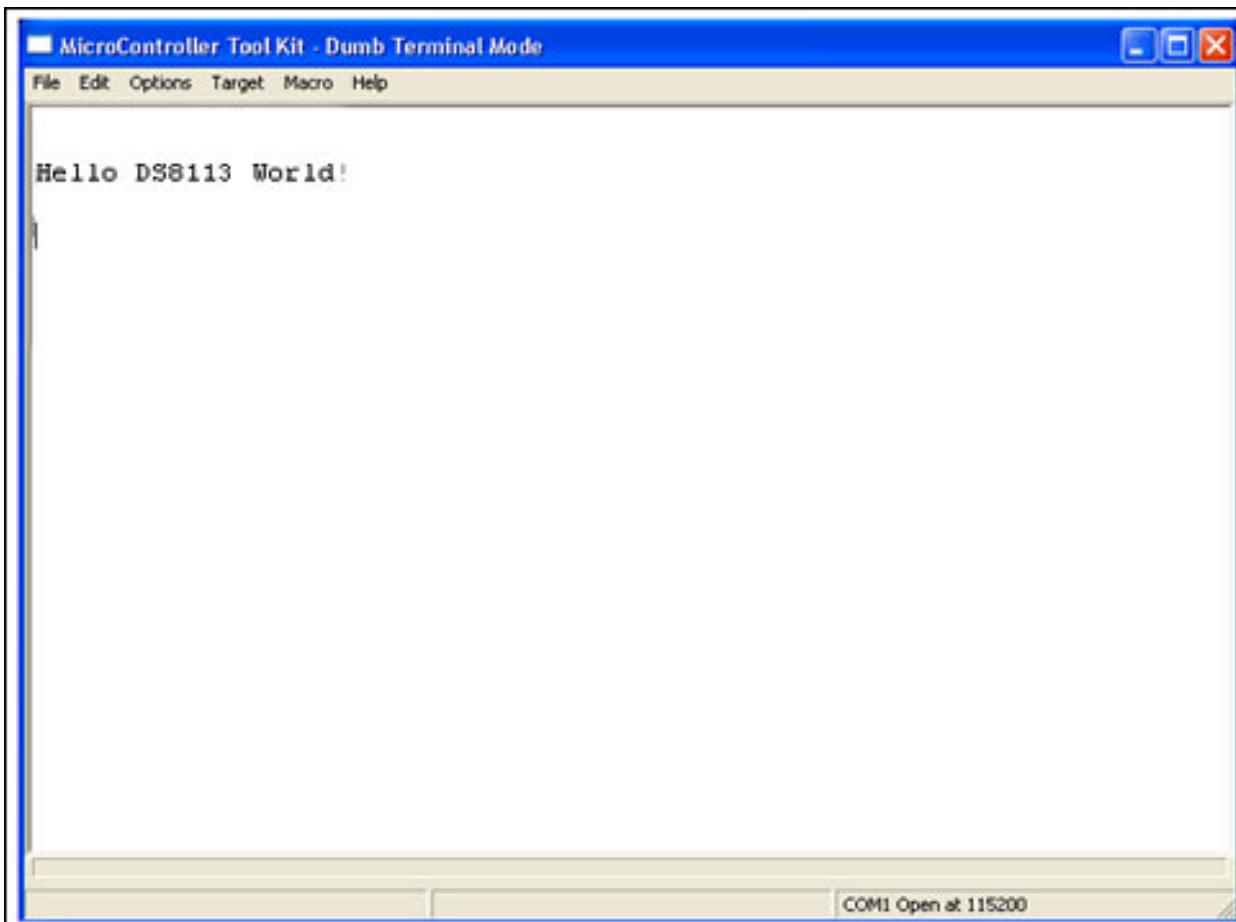

Figure 5. Output screen.
5. Finally, connect 5V power directly to the EV kit board at J1, and toggle the power switch, SW5, toward the DB-9 connector to apply power to the board. The MTK screen should display the "Hello DS8113 World!" message shown in **Figure 5**. Powering the board OFF and then ON with the power switch will cause the processor to reset, the program to restart, and the message to be displayed again.